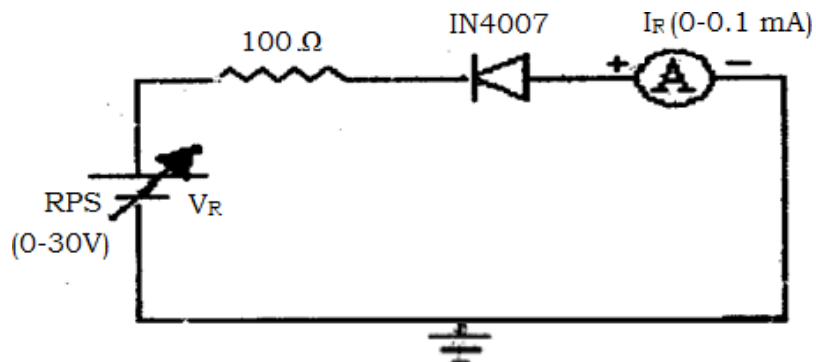

Figure 2 Measurement of Voltage and current in reverse biasing
- 9) For reverse bias characteristics connect the circuit as per the diagram of fig. 2.